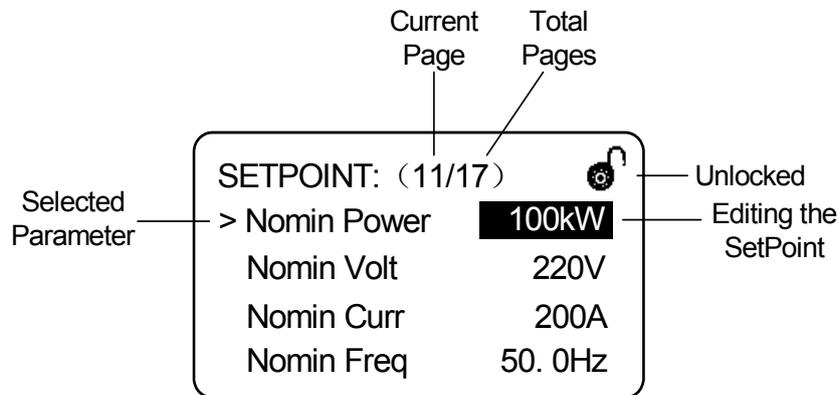

Figure 2-9
- Select “Nomin Power” set point, press RESET key to enter editing status, see figure 2-9